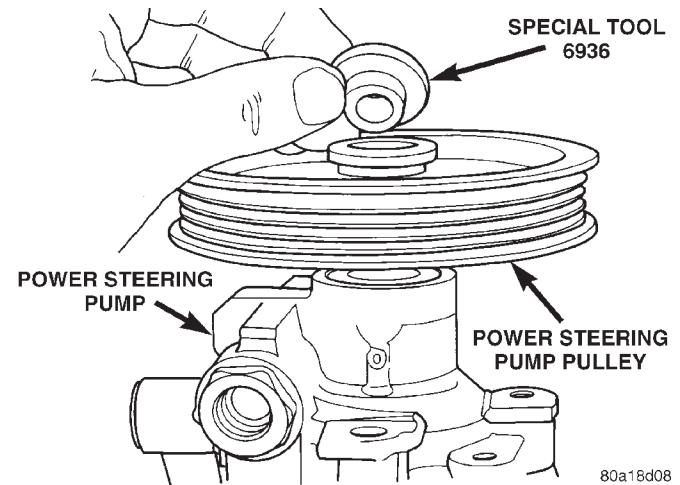

Fig. 49 Special Tool 6936 Correctly Installed On Power Steering Pump Pulley
(3) Place Installation Spacer, Special Tool 6936, (Fig. 49) on top of the power steering pump pulley.